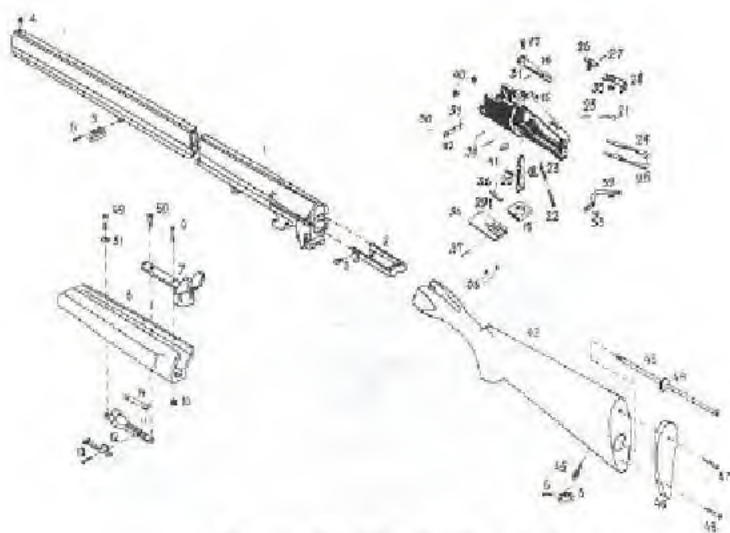

Fig. 1 - MP233 Exploded View
1) Fig 1: When you open the box of your new MP233 shotgun the barrel and forend is separated from the main portion of the shotgun. To attach the barrel and forend first